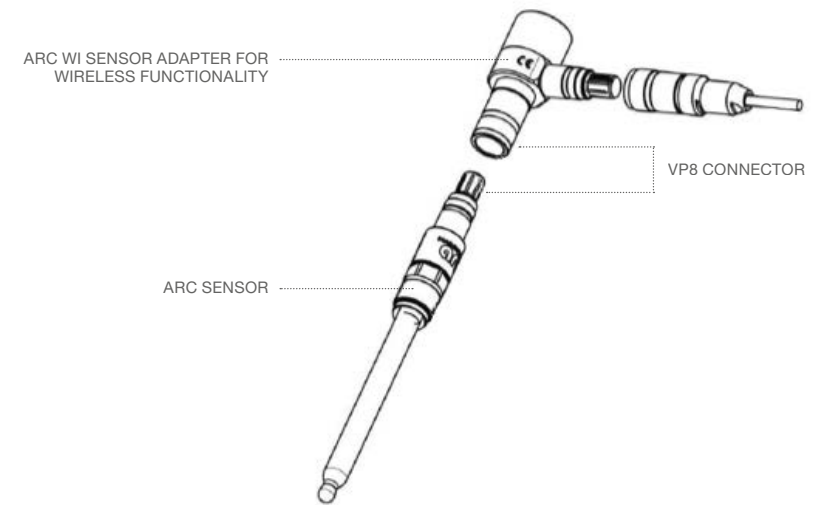

Figure 37: Mounting an Arc Sensor.
1. Mount the Arc Wi Sensor Adapter between the Arc sensor and the Arc Cable VP 8 (Figure 37).